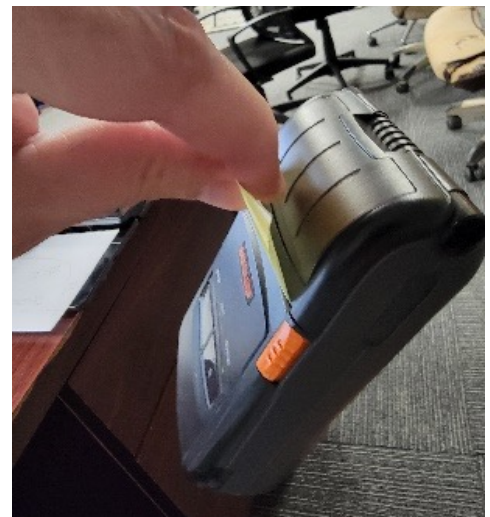

Figure 42
- The weight of the printer helps prevent the label from curling or jamming (Figure 42).